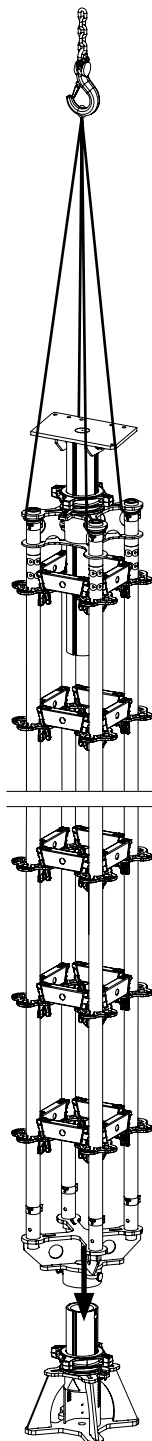
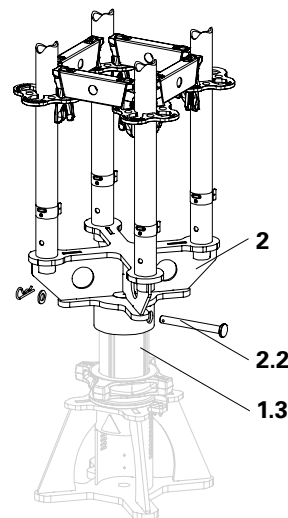

Fig. A2.06
Fig. A2.06a
2. Attach the prop to the crane and raise it to a vertical position. (Fig. A2.06)
3. Place the prop with the connection plate (2) on the spindle tube (1.3) of the lowering jack.
7. Fit the plate and secure it with a cotter pin. (Fig. A2.06a)